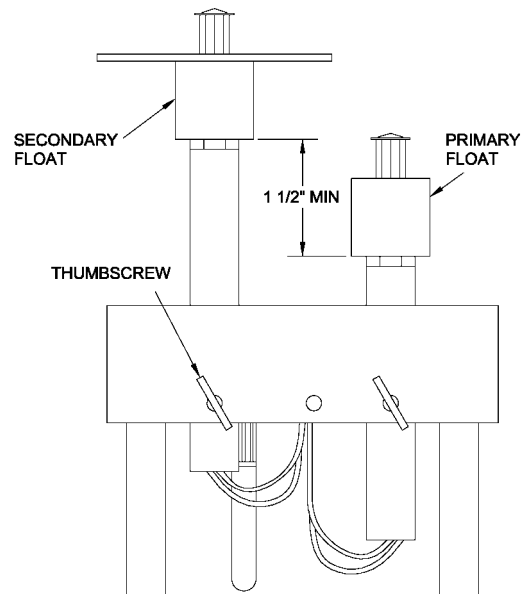

Figure 3-3. Final Adjustment on Secondary Float
9. Remove the transmitter from the skimmer chamber and adjust the **secondary** float mount to position secondary float 1 $\frac{1}{2}$ inches below the primary float (figure 3-3).
6. After adjusting the primary float mount, make certain the secondary float is still positioned at least $1 \frac{1}{2}$ inches below the primary float (see figure 3-3).